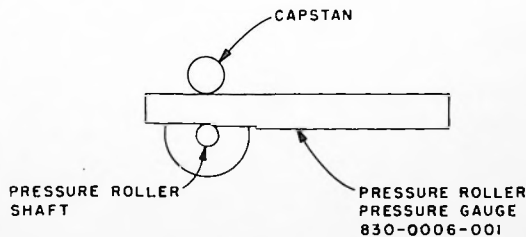

FIGURE 4-4
1. Using the pressure roller compression gauge (available from ITC), check the distance between the capstan shaft and the pressure roller shaft. The tool should advance to the first "step" and stop as shown in Figure 4-4.